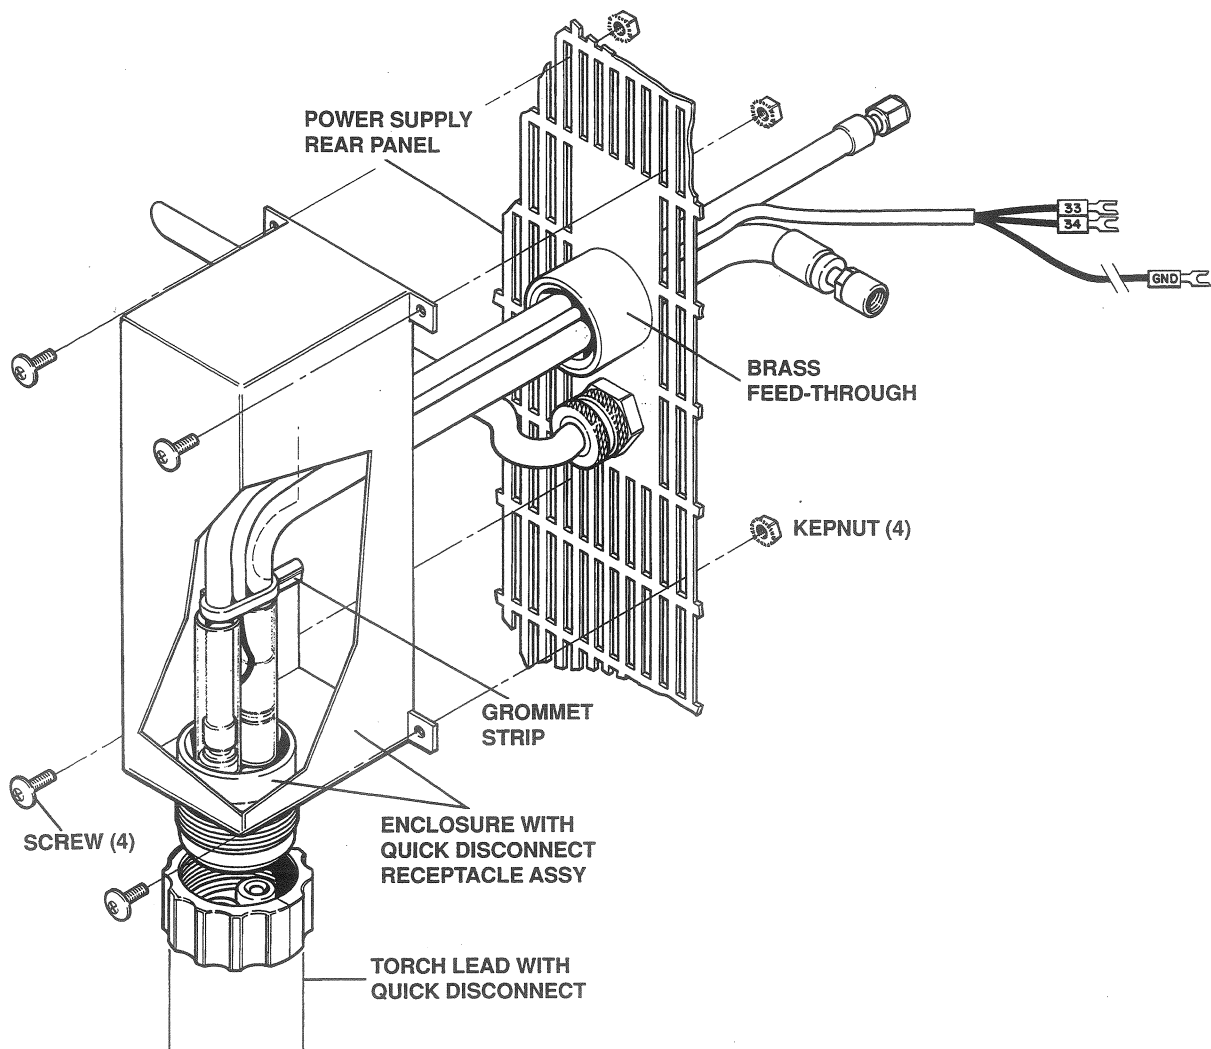

Figure 1 MAX100 Quick Disconnect Box Installation
1. Position the quick disconnect enclosure as shown in Figure 1 to allow the quick disconnect receptacle assembly torch leads and switch leads to pass through the brass feed-through at the rear left of the power supply.